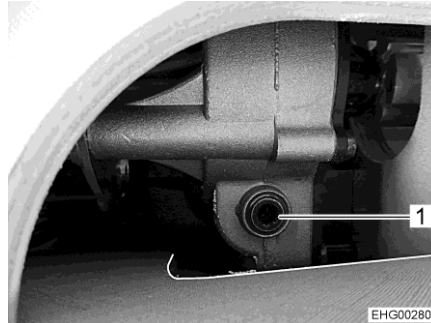

Fig. 54 Access to drive (example)
- Insert the crank provided or an Allen wrench into the holder on the drive (Fig. 54,1).